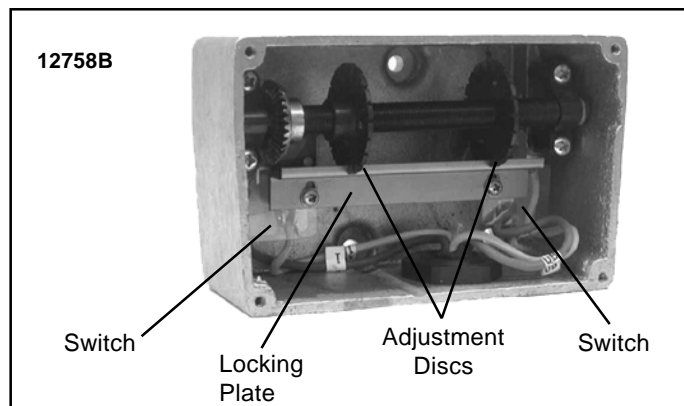

Figure 7-2. Screw-Type Limit Switch Adjustment (Wires Not Shown for Clarity.)
- b) **Procedure.** Remove load from the hook. To disconnect the geared limit switch, refer to Figure 7-2. Remove the limit switch cover then loosen the two (2) screws holding the locking plate in place. Allow the locking plate to slide down and disengage from the adjustment discs. Do not rotate the adjustment discs.
Position the lower block three inches (3") below the point where the block operated limit switch is activated. The geared limit switch shall be reconnected by sliding the locking plate back into position ensuring slots on adjustment discs are fully engaged and tightening locking plate screws to 4 in-lbs. (See Figure 7-2). The geared limit switch must then be tested.
operate the contacts of separate switches, one for the hoisting circuit and one for the lowering circuit. The switch assembly must be wired in accordance with the appropriate wiring diagram, which is shipped with the hoist. Instructions for adjusting limit switch are inside cover and are repeated below (see Figure 7-2).